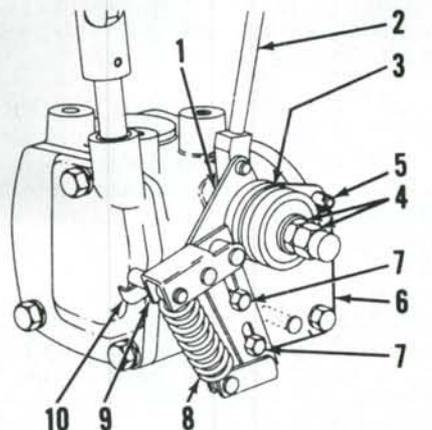
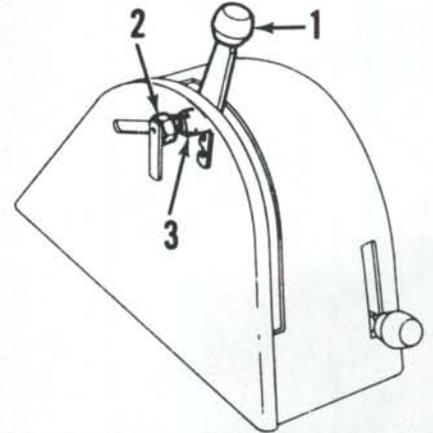

Fig. 247—View of control lever linkage friction adjustment and spring carrier adjustment points.
Fig. 249—View of typical quadrant control lever (1) and stop (2).
#### 314. CONTROL LEVER FRICTION DISC ADJUSTMENT. If lift linkage control lever moves from a set position, tighten nuts (4—Fig. 247) to
**315. SPRING CARRIER ADJUSTMENT.** Start engine and run at 1800 rpm. Move selector dial to POSITION control setting. Hold linkage control lever in SELECT position until linkage is at full height and pump relief valve opens. Slowly move control lever forward until relief valve closes but lift arms do not lower. Hold control lever in this position. Loosen the two bolts (7—Fig. 247) and move spring carrier (9) until it contacts lever stop (10). Tighten the two bolts to secure adjustment.
**317. SELECT STOP ADJUSTMENT.** Place selector dial in POSITION control setting. Loosen nut (2—Fig. 249) and move stop assembly (3) to bottom of slot. Move linkage control lever (1) rearward until friction lever pin (5—Fig. 247) contacts plate (6). Move stop until it just contacts linkage control lever, then tighten nut to retain stop in this position.